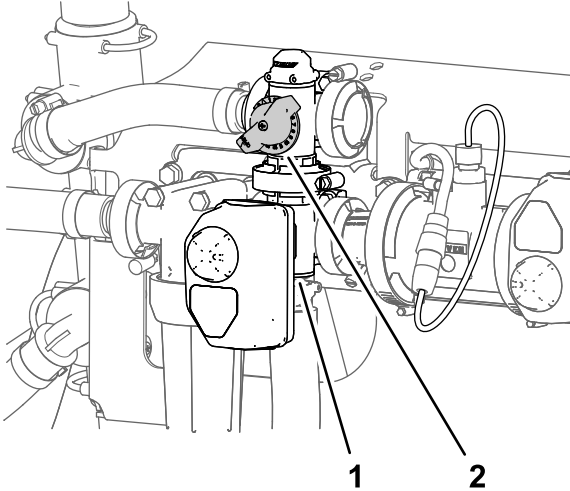

Figure 41
10. Adjust the agitation-bypass valve (Figure 41) on the backside of the agitation valve until the sprayer system pressure indicated on the gauge indicates 689 kPa (100 psi).